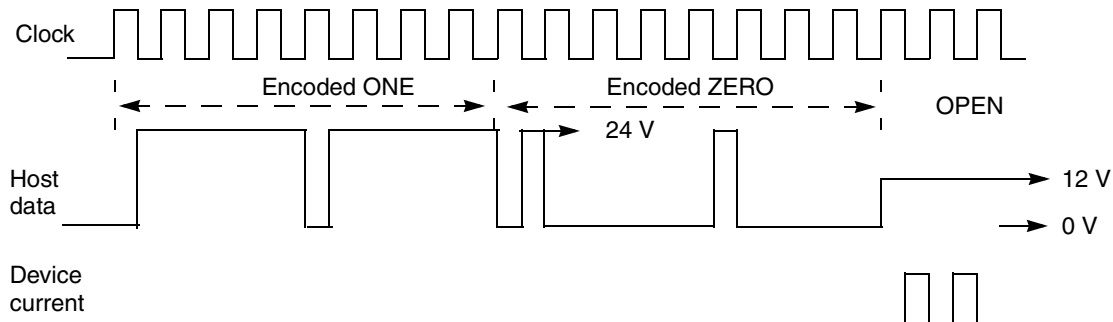

Figure 2. Detector Bus Timing
- Detector bus: The detector bus is a type of two wire based special control bus with 24 V DC supply and modulated data. Figure 2 shows a typical waveform on the bus; however, different manufacturers define different communication protocols.